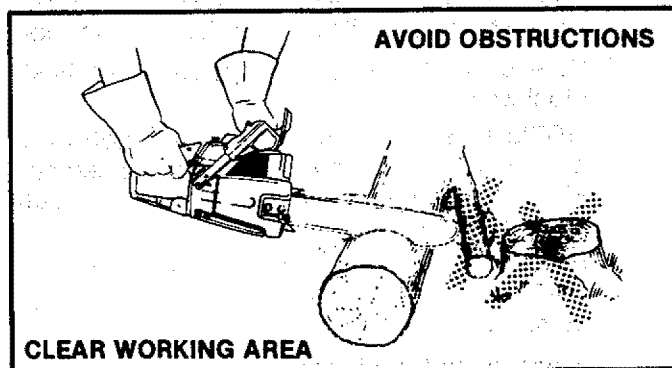

Figure 16
- c. Keep the working area free from obstructions such as other trees, branches, rocks, fences, stumps, etc. Figure 16. Eliminate or avoid any obstruction that your saw chain could hit while you are cutting through a particular log or branch.